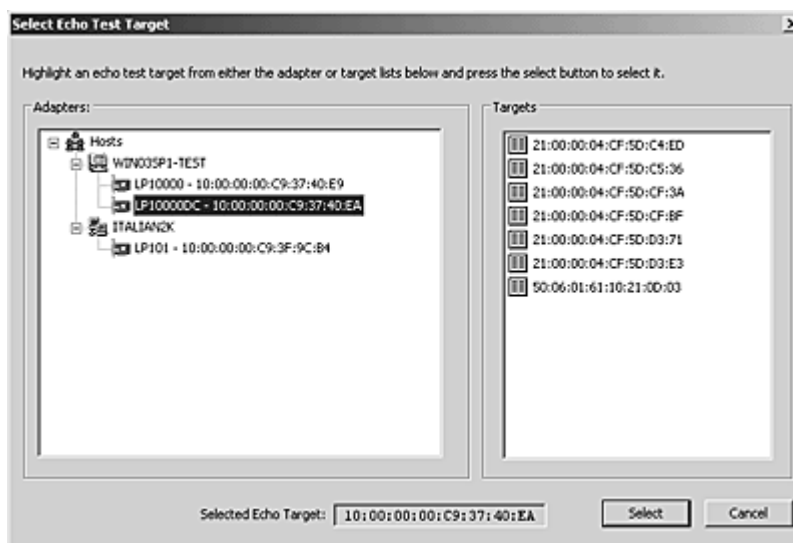

Figure 41: HBAnyware Utility, Select Echo Test Target Window
3. Select the **Diagnostics** tab. Click **Advanced Diagnostics Test** (see Figure 41 on page 82).